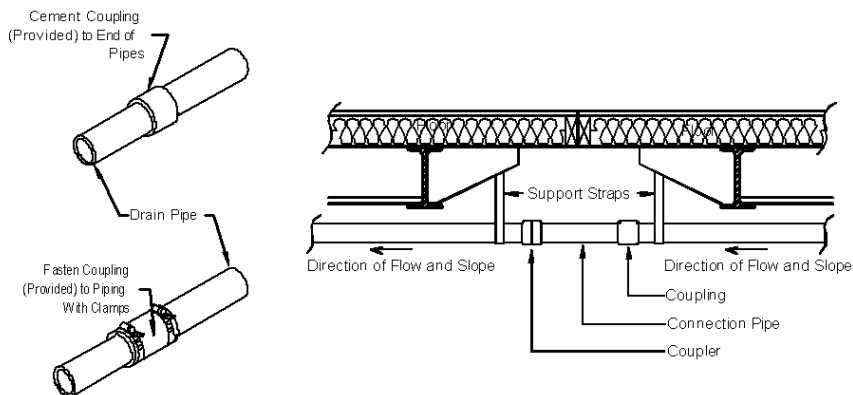
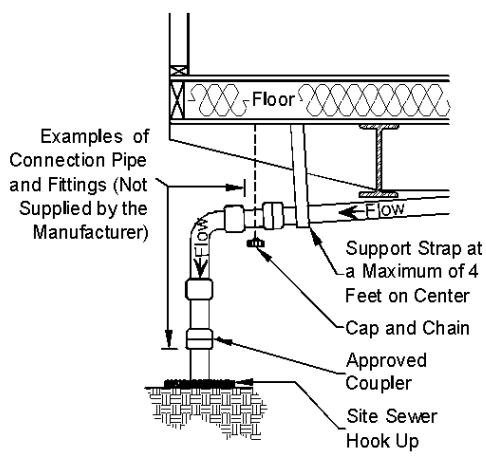
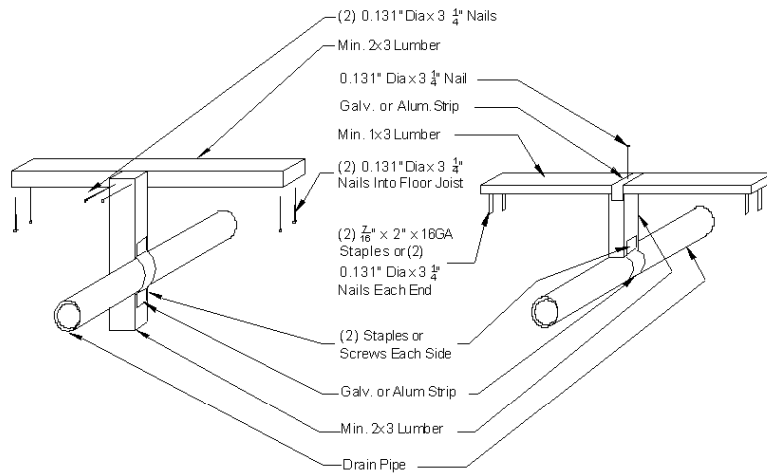

Figure 71. Drain crossover connection
Figure 73. DWV connection to sewer/septic
Figure 74. DWV pipe support options
- 2. Assemble pipes (if shipped loose).** Using the drain schematic drawing provided with the home, begin assembling the DWV system starting at the location farthest from the sewer/septic connection and working towards the outlet, fastening the pipe with cement or adjustable screw-clamp connectors, if provided (Figure 71). As the system is assembled, support the piping with tem-
4. **Connect to outlet.** Connect the main drain line to the site sewer/septic hook-up, using an approved elastomer coupling (Figure 73).
5. **Install supports.** Install permanent drain line supports at a distance of four feet o.c. or less (see Figure 71, Figure 73, and Figure 74).